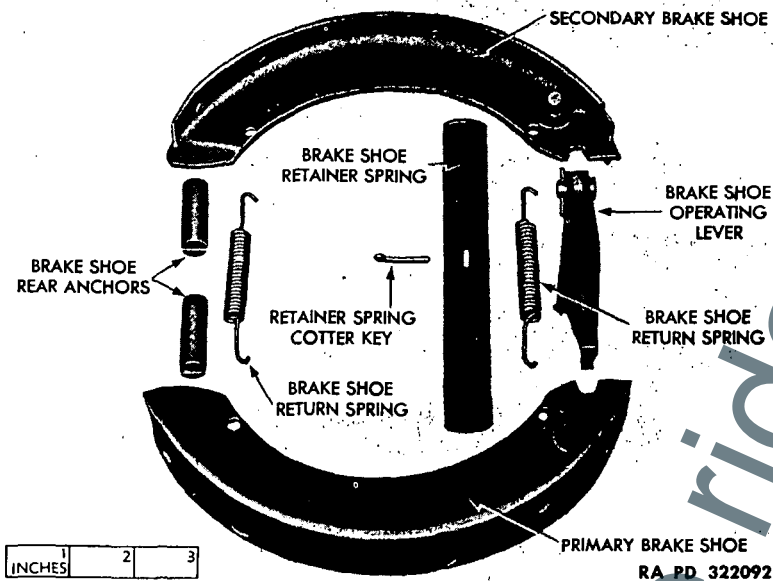

Figure 52—Brake Shoes Removed
c. **Removal.** Remove the wheel hub cap and lugs on the drum. Remove the wheel. Remove drum assembly. On front wheels, remove two wheel nuts, two washers, outer bearing race, outer bearing and brake drum. On rear wheels, remove cotter pin and nut, and then loosen drum by a sharp hammer blow on the end of the axle. **NOTE:** Use a piece of brass or copper to protect end of shaft. Disconnect cable attaching plate at rear of backing plate. Remove cotter pin from the retainer spring and remove the two return springs from the shoes. Lift off the shoes, anchor pins, and operating lever (fig. 52).